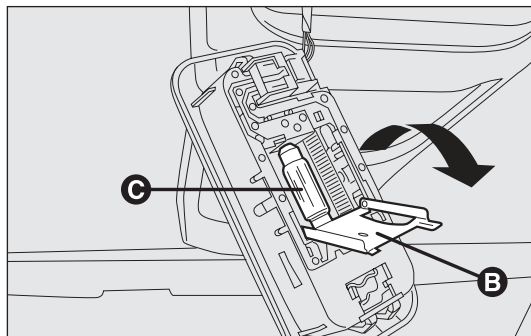

fig. 176
- ☐ open the protective flap B-fig. 176;